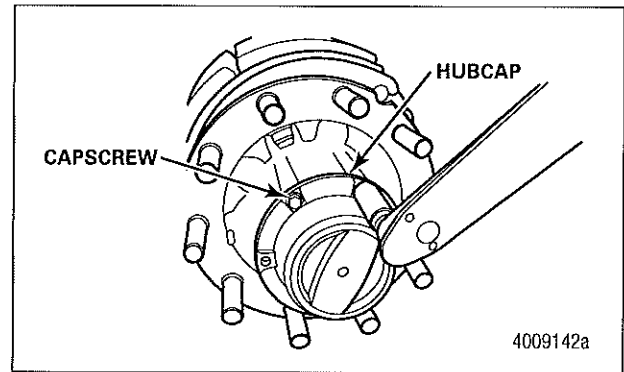

Figure 31
10. Once end play is within specifications, install the hubcap using a new black hubcap gasket. Install the capscrews and tighten them in a crisscross pattern to 15-30 lb-ft (20-41 N•m). Figure 31. ①